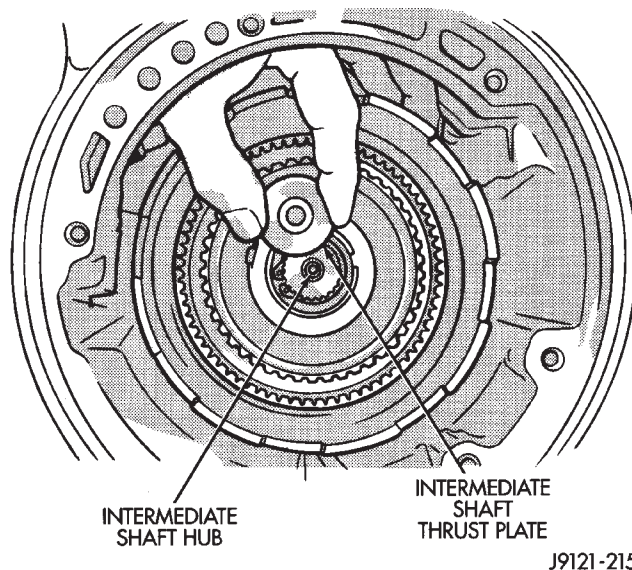

Fig. 21 Removing Intermediate Shaft Thrust Plate
(31) Remove output shaft thrust plate from intermediate shaft hub (Fig. 21).